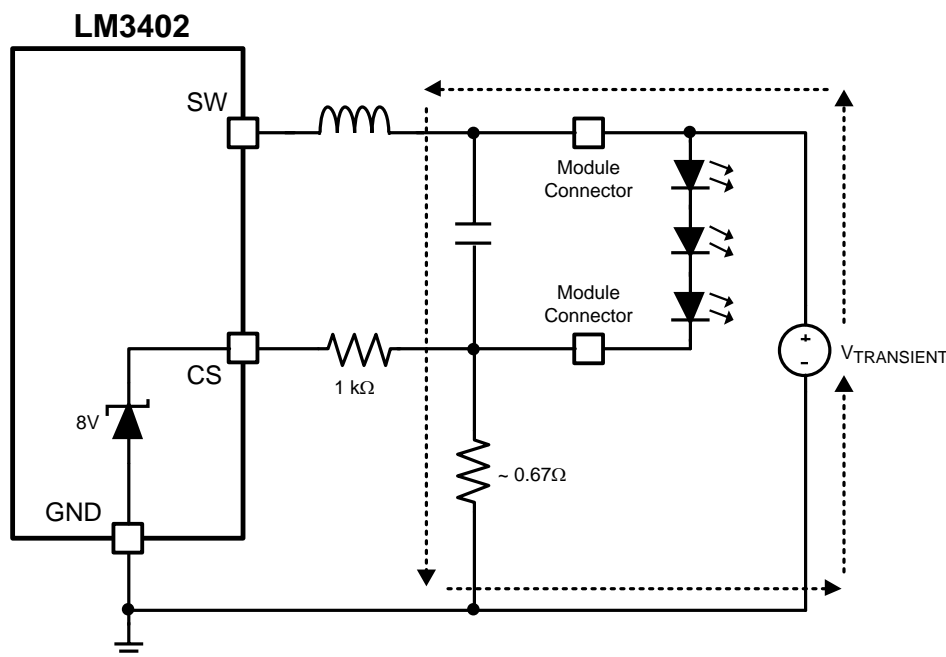

Figure 23. CS Pin, Transient Path With Protection
From measurements, we know that the 8V ESD structure on the CS pin can typically withstand 25mA of direct current (DC). Adding a 1-k Ω resistor in series with the CS pin, shown in Figure 23, results in the majority of the transient energy to pass through the discrete sense resistor rather than the device. The series resistor limits the peak current that can flow during a transient event, thus protecting the CS pin. With the 1-k Ω resistor shown, a 33-V, 49-A transient on the LED return connector terminal could be absorbed as calculated by: